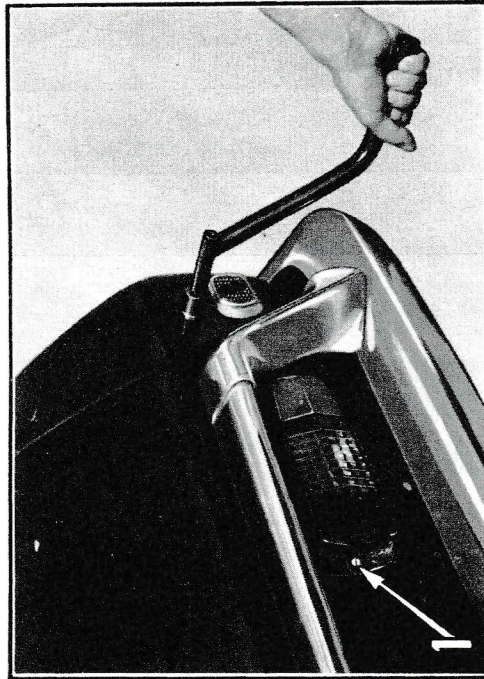

Figure 9
- Take the tool kit and spare wheel from under the bonnet. If the rear wheel has to be changed, remove the wing, unscrew the nut (fig. 9) with the crank handle, then pull the wing towards the rear (fig. 10) lifting it slightly.
If you have changed a rear wheel, replace the wing; first insert the dowels (fig. 10) in their housings. **Push the wing completely in towards the front and tighten the nut (fig. 9).**